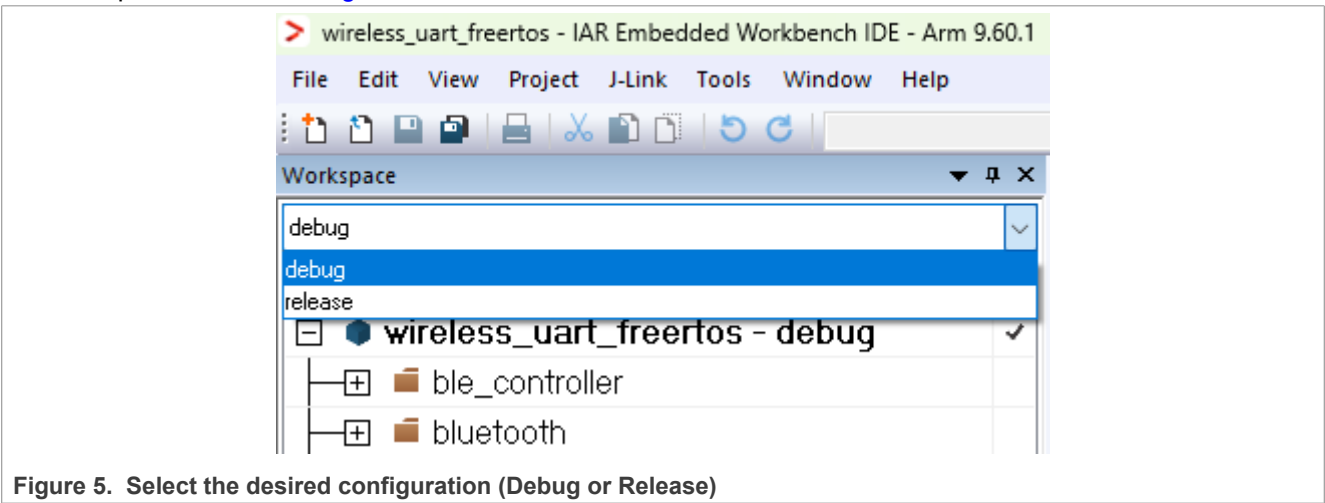

Figure 5. Select the desired configuration (Debug or Release)
3. Choose between Debug and Release configurations in the drop-down selector above the project tree in the workspace, as seen in Figure 5.